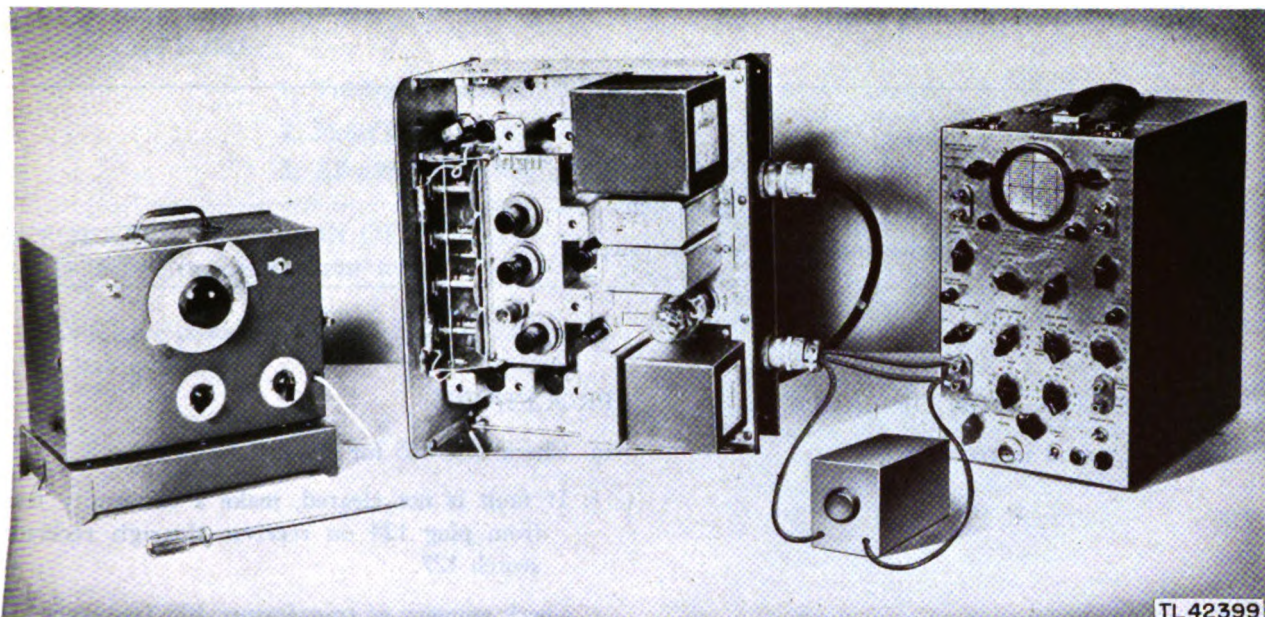

Figure 129. Receiver set up for alignment procedure.
(1) Keep the equipment close together.
(2) Connect all chassis together with several short leads.
(3) Ground the chassis.
c. Preliminary to the alignment of the receiver, the following steps must be taken (fig. 129):
(1) Connect alligator clip of gain box to pin B of connector 125 on receiver. Turn variable control of gain box completely counterclockwise. This insures maximum gain.
(2) Connect Y-input lead of test scope to pin C of connector 125 of receiver.
(3) Connect the output of signal generator to the I.F. IN jack 129-1.
(4) Turn the equipment on and allow it to warm up for a few minutes.